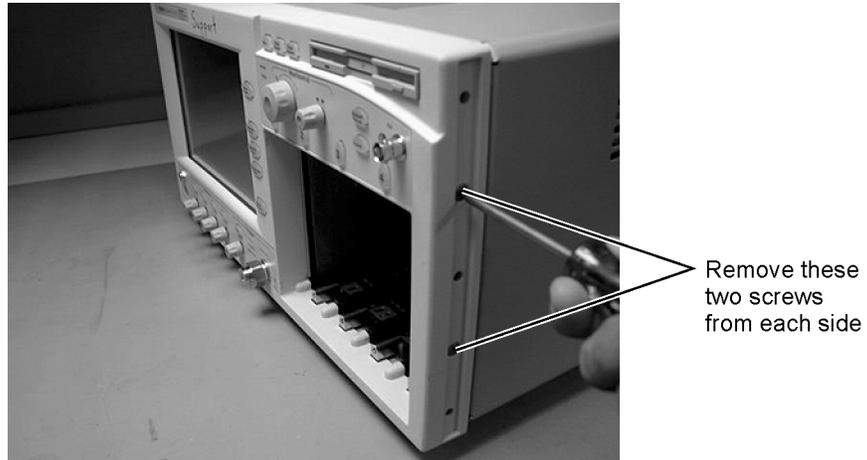

Figure 4-27. Removing the Front Panel Screws
- 3 Use the T-15 TORX driver to remove the four screws (two on each side) that secure the front panel to the mainframe, as shown in Figure 4-27.